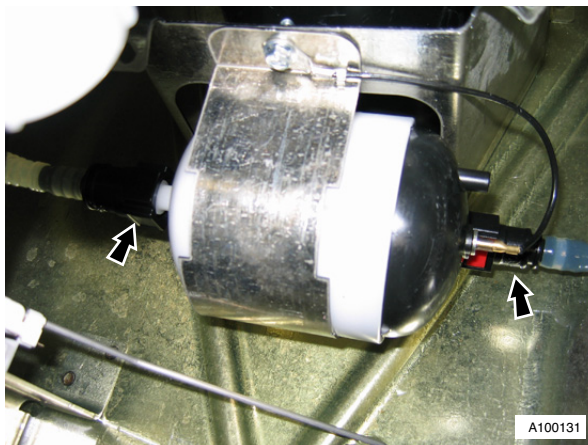

Fig. 2
10. Release the fuel filter hoses (x2) quick release unions (see Fig. 2).
11. Remove nut fuel filter clamp to bracket (see Fig. 2).